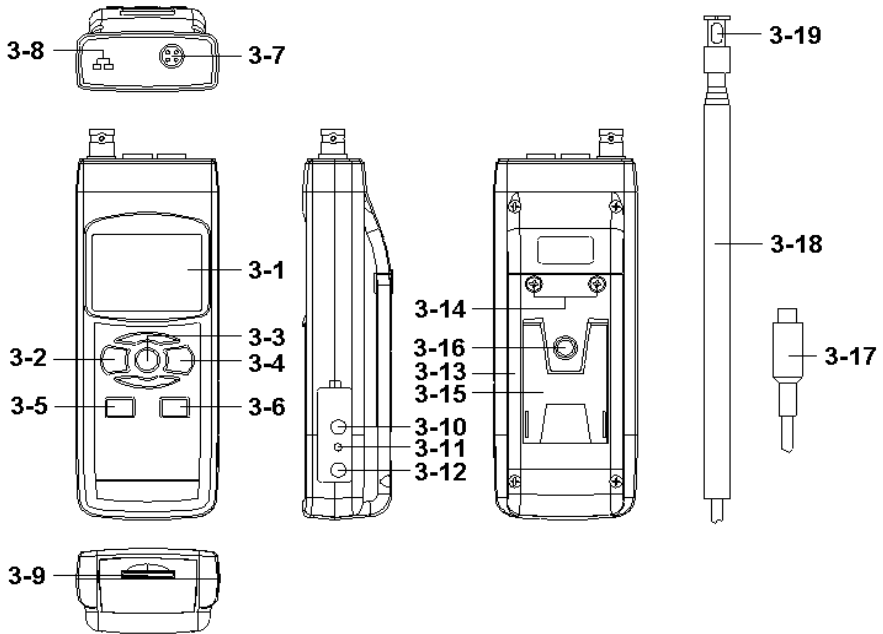

Fig. 1
( 3-2, Fig. 1 ) momentarily.
*\* Pressing the " Power Button " ( 3-2, Fig. 1 )
Pressing the " Function Button " ( 3-3, Fig. 1 )
just release the " Function Button " ( 3-3, Fig. 1 ), the
- 3) Plug the " Probe Plug " ( 3-17, Fig. 1 ) into the " Probe Input Socket " ( 3-7, Fig. 1 ).
Power on the meter by pressing the " Power Button " ( 3-2, Fig. 1 ) once,
- 4) Hold the " Telescope Probe " ( 3-18, Fig. 1 ) by hand and let the " Sensing Head " ( 3-19, Fig. 1 ) face against the measuring air flow source, then the Display ( 3-1, Fig. 1 ) will show air velocity directly. At the same time, the lower Display will show the air temperature value.
- 2) Plug the Thermocouple Temp. Probe ( Type K Temp. probe pr Type J Temp. probe, optional ) into " Type K/J Probe Input Socket " ( 3-8, Fig. 1 )
During the measurement, press the " Hold Button " ( 3-3, Fig. 1 ) once will hold the measured value & the LCD will display a " HOLD " symbol.
- 1) The data record function records the maximum and minimum readings. Press the " REC Button " ( 3-4, Fig. 1 ) once to start the Data Record function and there will be a " REC " symbol on the display.
- a) Press the " REC Button " ( 3-4, Fig. 1 ) once, the " REC MAX " symbol along with the maximum value will appear on the display.
If intend to delete the maximum value, just press the " Hold Button " ( 3-3, Fig. 1 ) once, then the display will show the " REC " symbol only & execute the memory function continuously.
- b) Press the " REC Button " ( 3-4, Fig. 1 ) again, the " REC MIN " symbol along with the minimum value will appear on the display.
If intend to delete the minimum value, just press the " Hold Button " ( 3-3, Fig. 1 ) once, then the display will show the " REC " symbol only & execute the memory function continuously.
After power ON, the " LCD Backlight " will light automatically. During the measurement, press the " Backlight Button " ( 3-2, Fig. 1 ) once will turn OFF the " LCD Backlight ".
insert the SD card into the " SD card socket " ( 3-9, Fig. 1).